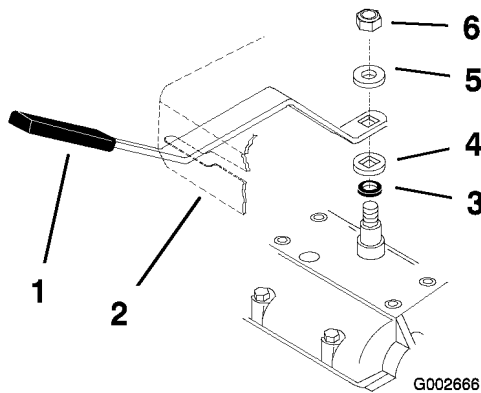

Figure 8
1. Shift lever to second gear and check alignment of lever in slot of shift lever plate. The clearance between top and bottom of the shift lever should be equal (Figure 8).
2. If clearance is not correct, remove lever and bend it slightly to adjust (Figure 8).
3. Shift lever to neutral and check alignment of lever in slot of shift lever plate. The clearance on the sides of shift lever should be equal (Figure 8).